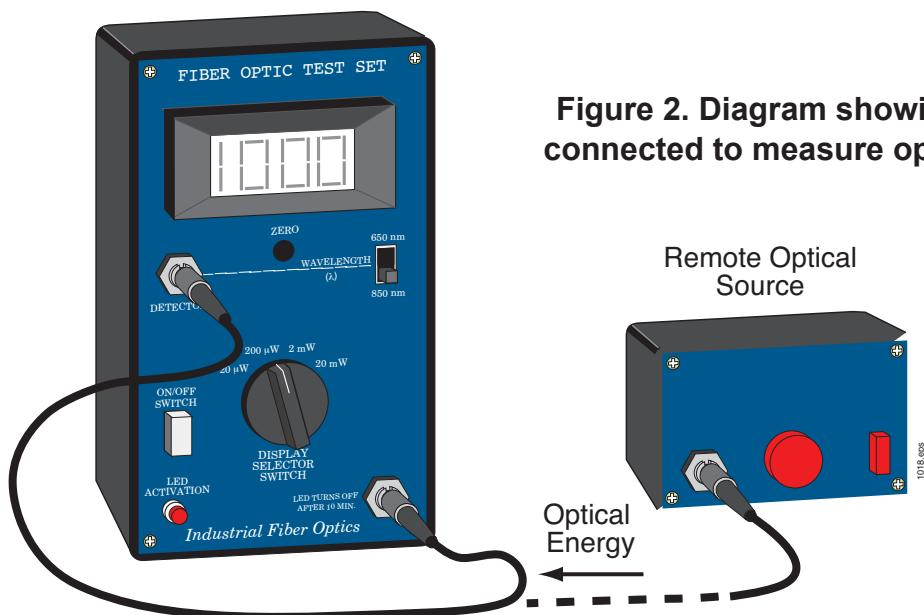

Figure 2. Diagram showing test set connected to measure optical power
- 4.** Attach one end of a connectorized cable to the external optical source or transmitter. If you are using the built-in LED, remove the protective cap from the receptacle and insert the connector. See Figure 2. Insert the remaining connector into the “DETECTOR” receptacle. *When making measurements with un-connectorized cable ends or fiber, gently insert them into the appropriate receptacles on the test set. Do not apply pressure beyond what is required to seat the ends or internal components may be damaged.*